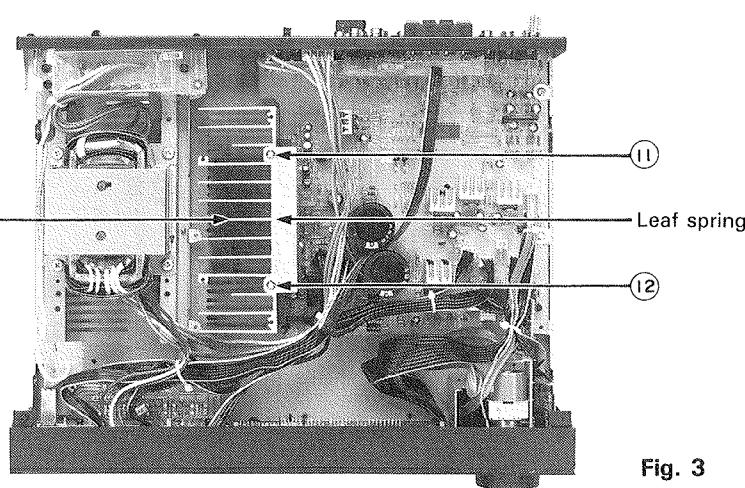

Fig. 3
2. Remove two screws ⑫ and ⑬ securing the heat-sink and leaf spring. (See fig.3.)